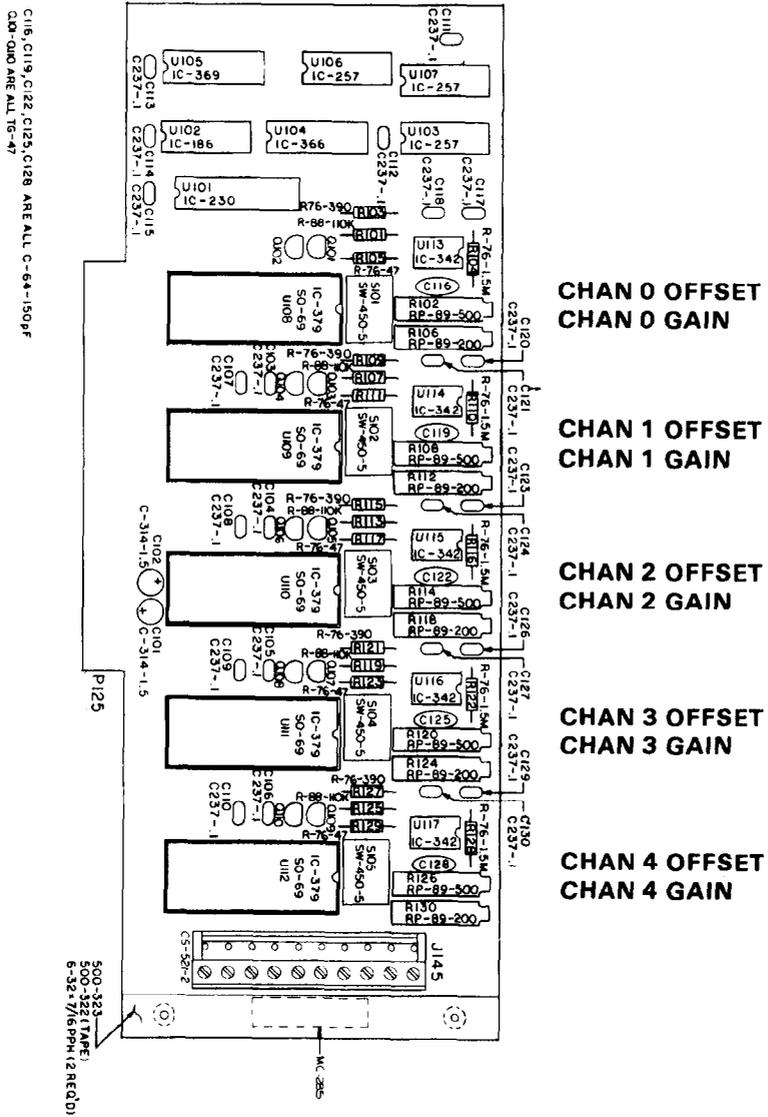

Figure 4. AOM1 Module Calibration Adjustments
4. Run the program and follow its instructions. Refer to Figure 4 for adjustment locations. Make sure the output range of the module is set correctly. The program will prompt with the correct range switch settings.